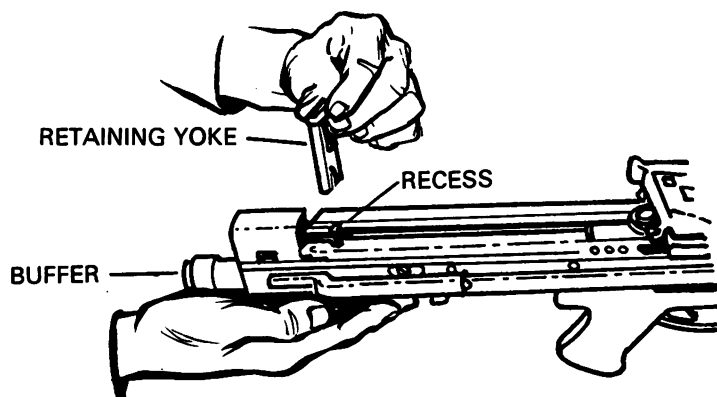

Figure 3. Removing the buffer group.
(1) Press lightly with the palm of the hand against the exposed buffer. Remove the buffer retaining yoke from the top of the receiver (figure 3).